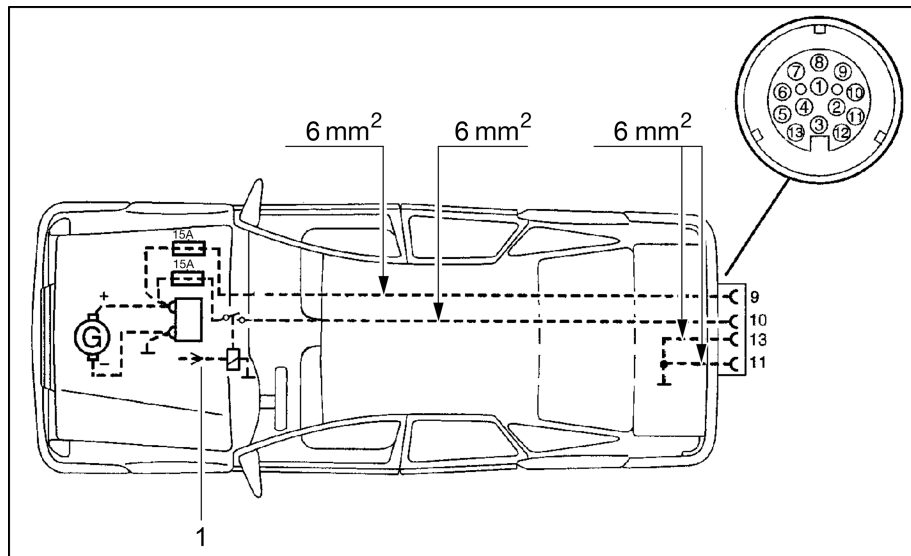

Fig. 100 Towing vehicle installation diagram
- ▷ The towing vehicle must be retrofitted with the corresponding cable cross sections and a relay for the power supply (controlled using the ignition) (see Fig. 100).